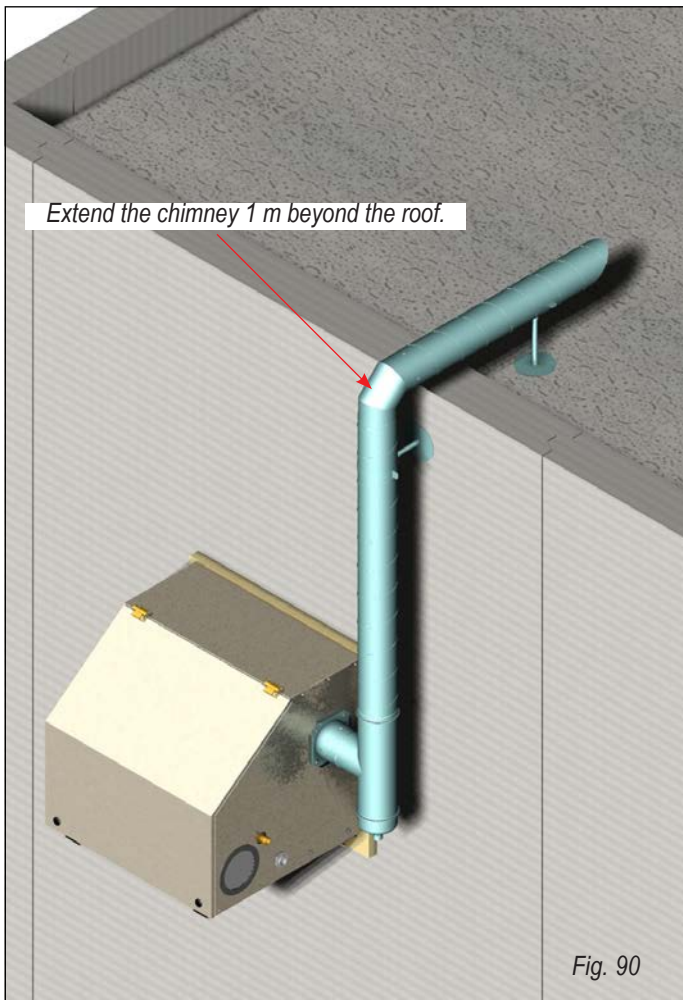

Fig. 90
The making of the exhaust gas duct for generators models GSR 50.1, GSR 100.1, GSR 100.1E and GSR 150 installed on the wall with water trap device is shown in fig. 90. The piece of **chimney tube (5)** must be cut during installation. The diagram of the assembly of various components described in the following is shown in fig. 91: